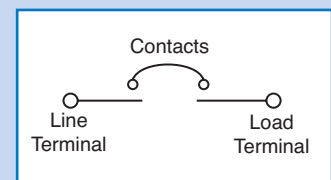

Fig. 5 - SWITCH ONLY
By use of magnetic "shunt" plates within the magnetic circuit, it is possible to divert magnetic flux resulting in higher "inrush withstanding capability" (or high inrush delays). These delays disregard short duration, high pulse surges (typically 8ms or less and up to 25x rated current), characteristic of transformers, switching power supplies and capacitive loads (Fig. 5).
■ Figure 5 - HI-INRUSH MEDIUM DELAY CURVE
Same as a Series Trip, but without a sensing coil. Provides low cost, heavy-duty switch capability when overload protection is not needed. "Switch Only" is available with and without an auxiliary switch. (Fig. 5)